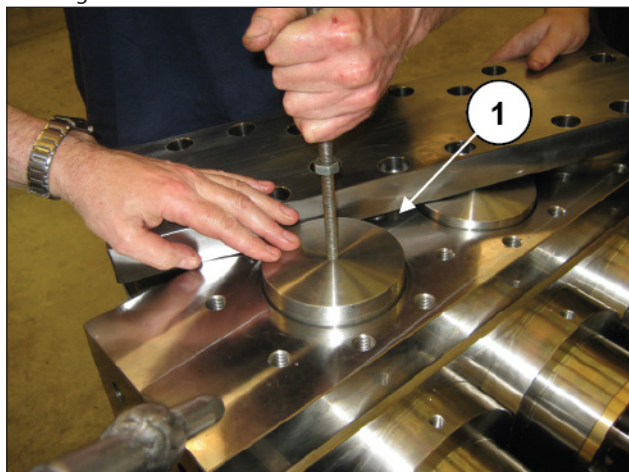
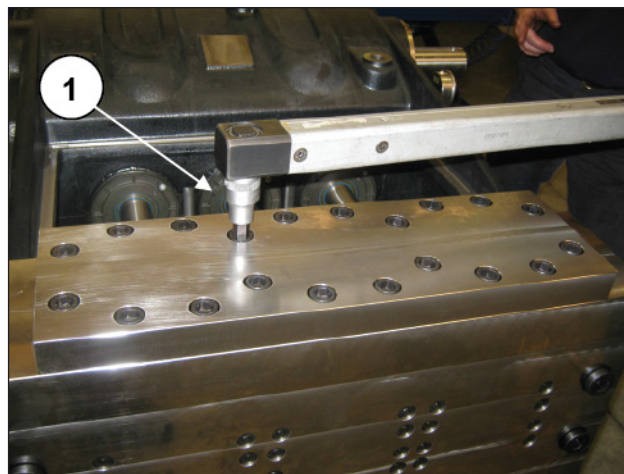

Fig. 195
Fig. 196
Insert the valve plugs complete with O-ring and back-up ring and fit the valves cover (pos. ①, Fig. 195) and screw in the 24 M16 screws (pos. ①, Fig. 196).